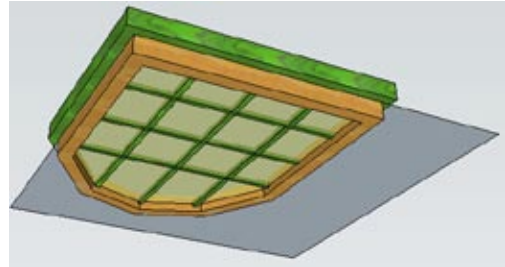

Figure 7-45
4. Complete the rectangle along the cutting plane, extending past the edges of the window (Figure 7-45).